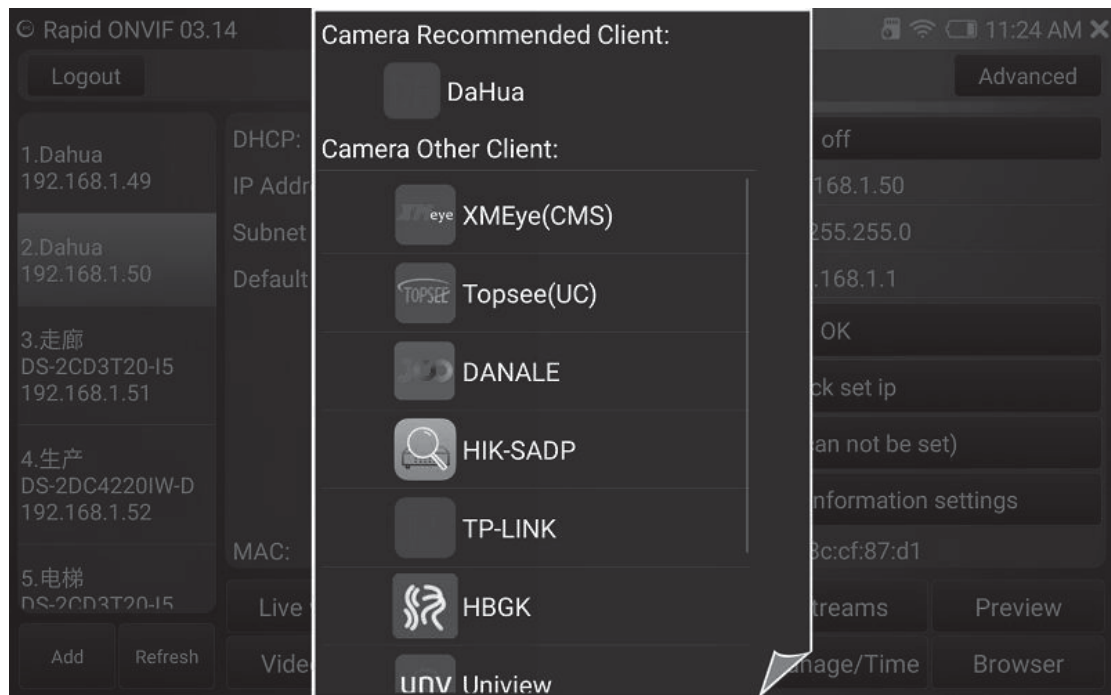

Figure 20
4) For cameras unable to edit IP: in rapid ONVIF App, touch IP Set button to set IP, if it cannot be set, touch 'More' button in the middle, it will list out all camera clients and recommend you to use the corresponding client software, touch to enter client and finish setting, as shown in Figure20